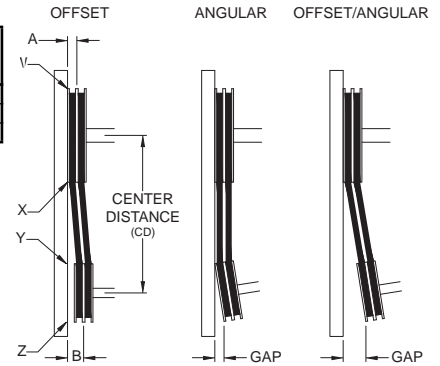
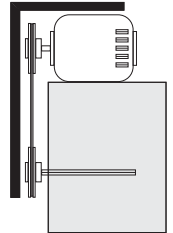

Figure 2
Figure 3
- Ensure pulleys are properly aligned. Refer to *Figure 2*.
*Figure 2* indicates where to measure the allowable gap for the drive alignment tolerance. All contact points (indicated by WXYZ) are to have a gap less than the tolerance shown in the table. When the pulleys are not the same width, the allowable gap must be adjusted by half of the difference in width. *Figure 3* illustrates using a carpenter's square to adjust the position of the motor pulley until the belt is parallel to the longer leg of the square.